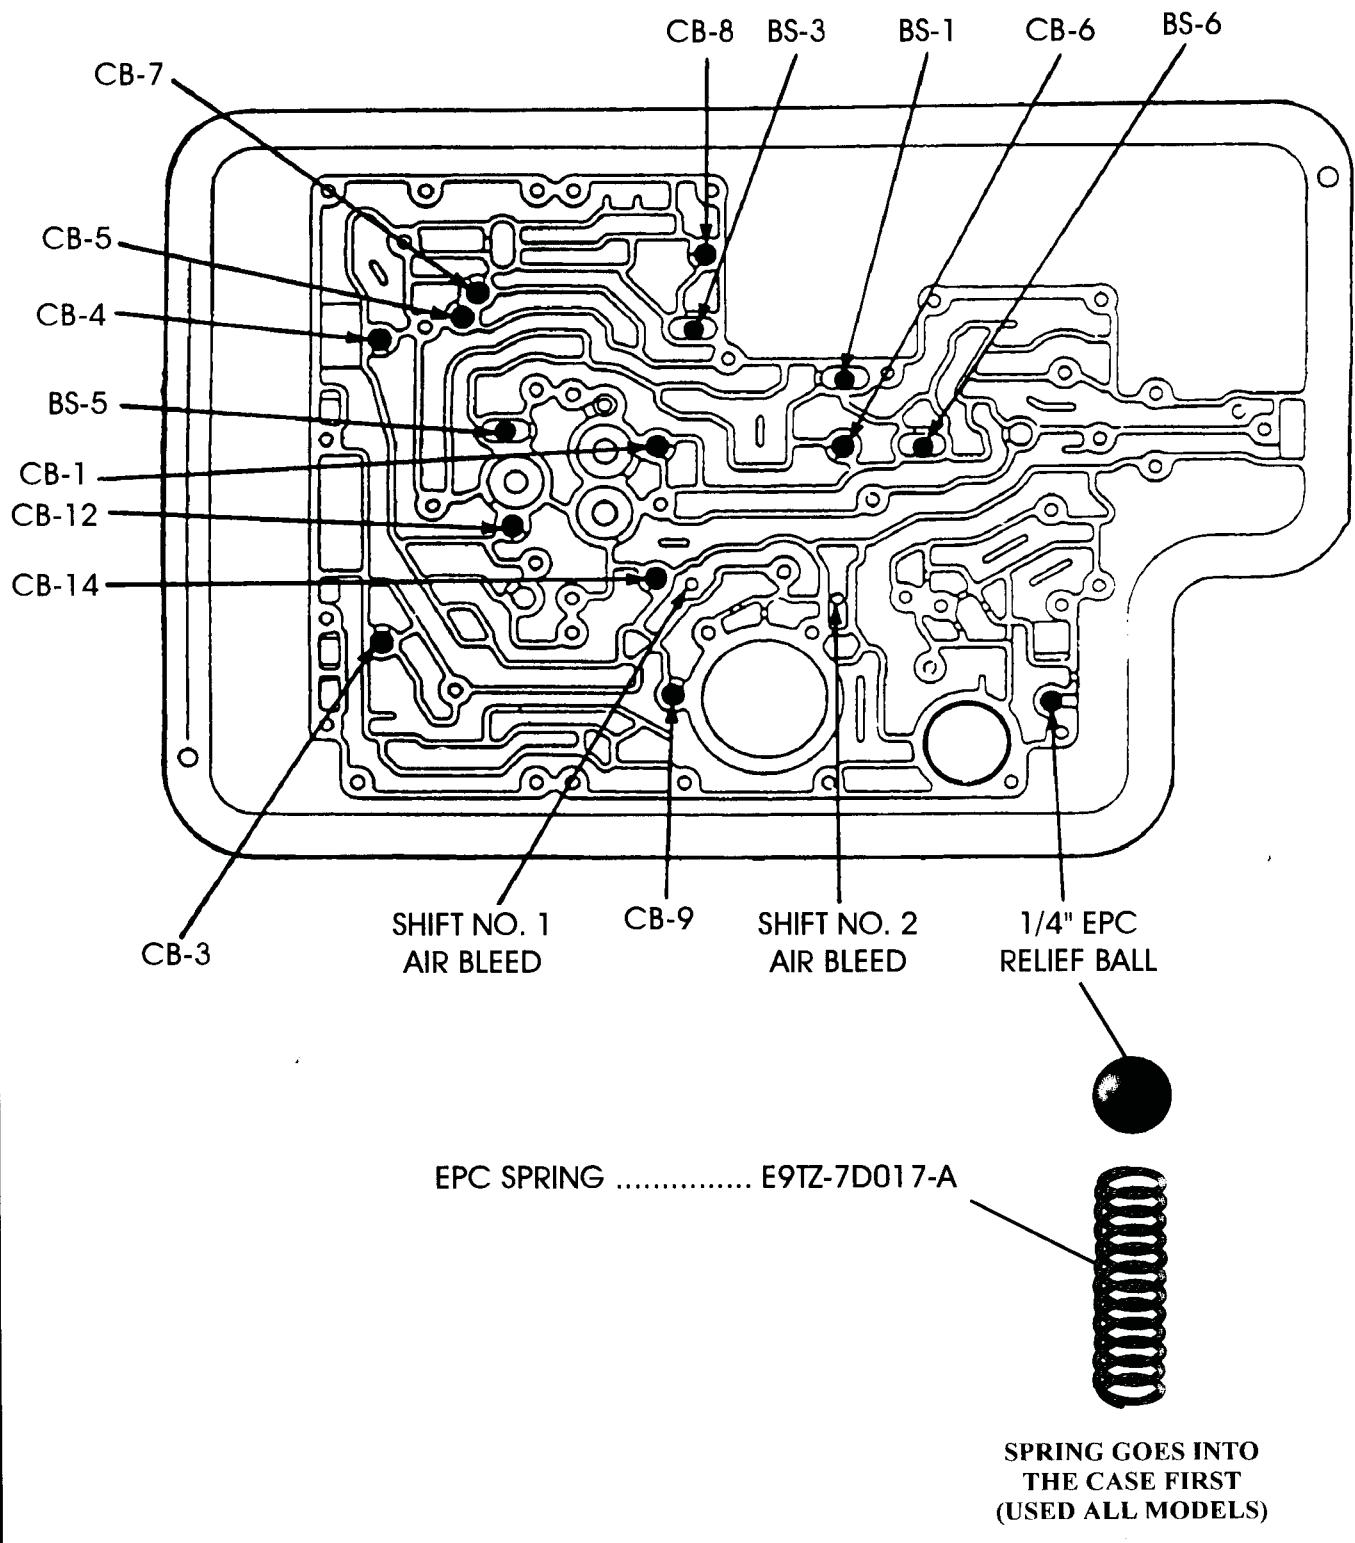

Figure 3
*Early 1989 Models* - Requires **Fourteen** 5/16" checkballs in the case, in the locations shown in Figure 3, and uses a 1/4" steel ball for the EPC blow-off, and location shown in Figure 3.